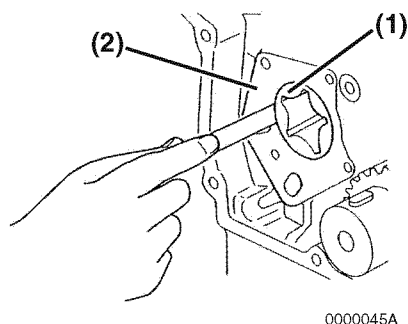

Figure 9-6
Determine the outside clearance of the outer rotor. Insert a feeler gauge between the outer rotor **(Figure 9-6, (1))** and gear case oil pump cavity **(Figure 9-6, (2))**.